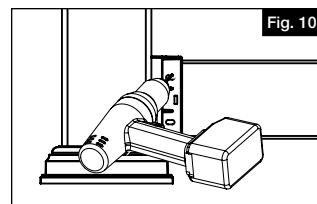

Fig. 10
- For each installed bracket, pre-drill in the center of each elongated hole with a $\frac{1}{8}$ " drill bit (Fig. 10).